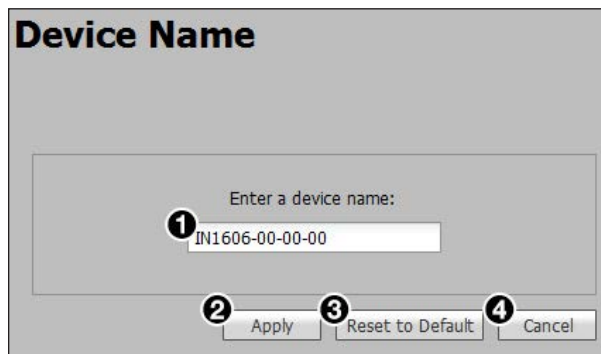

Figure 83. Device Name Page
1. Enter a name for the device in the name field (see figure 83, 1). This can be up to 63 alphanumeric characters in length with no spaces between characters. If an invalid name is entered, a red symbol appears to the right of the name field.